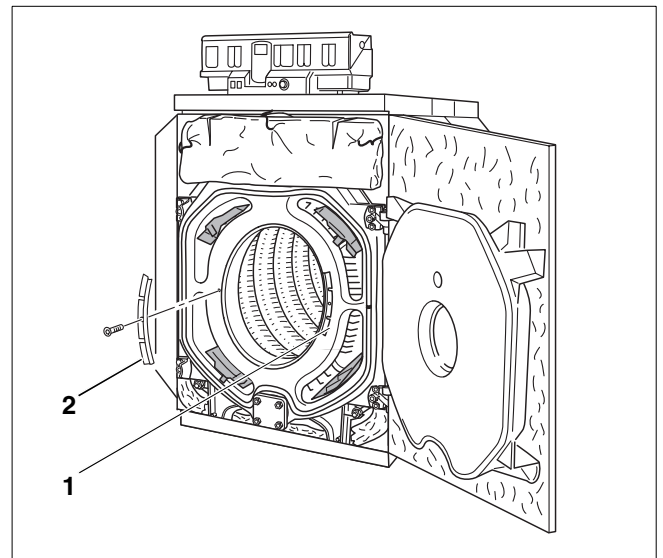
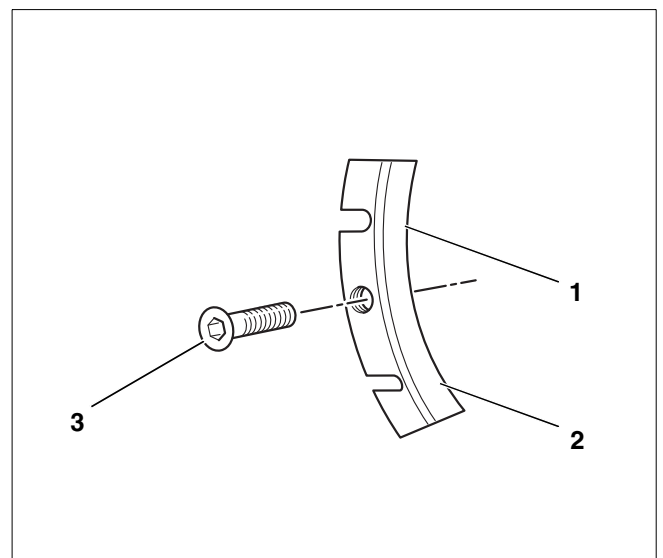

Fig. 71 Positions of hot-gas blanking plates
Fig. 72 Hot-gas blanking plate
- Unscrew the socket screw in each of the left- and right-hand blanking plates and remove the plates (Fig. 71, **ref. 1 and 2**).
- Unscrew the socket screws (Fig. 72, **ref. 3**) in each of the left- and right-hand hot-gas blanking plates and remove the plates (Fig. 71, **ref. 1 and 2**).
- Put the plates down on a supporting surface so that the notches (Fig. 72, **ref. 1 and 2**) project over the edge and are unsupported. Then knock one arcuate segment off the plates with a hammer.